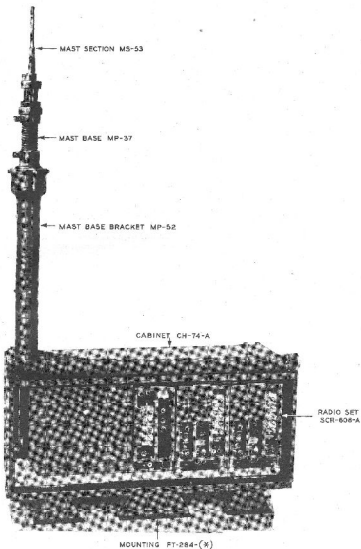

Fig. 1. Radio Set SCR-608-A: Front View of Cabinet CH-74-A with Associated Components
a. Arrangement and Weight of Major Components. The general construction and arrangement of Radio Sets SCR-608-A and SCR-628-A are shown in Figs. 1 and 2. Over-all component and assembly dimensions are shown in Fig. 3. The radio sets consist of these combinations of major units:
(1) Radio Set SCR-608-A.
(2) Radio Set SCR-628-A.